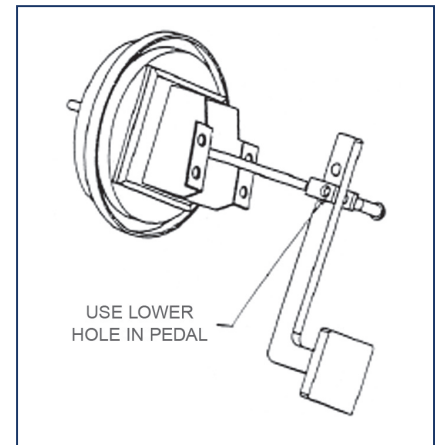

FIGURE 7
3. Mount the booster to the fire-wall with the existing studs or bolts. Place the clevis assembly into the lower hole in the pedal and install the pin and clip (See Figure 7).